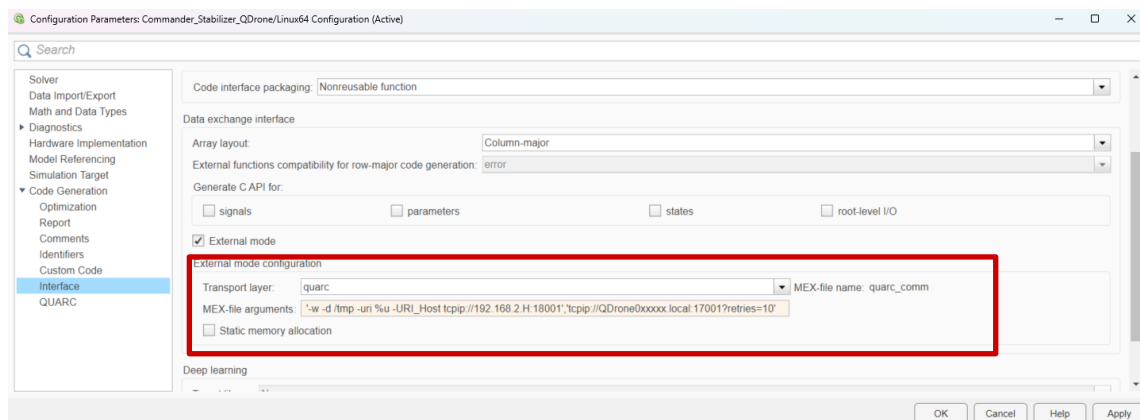

Figure 3. Model Configuration Parameters in the Commander_Stabilizer Model
5. Expand **Code Generation** on the left side of the window, click on **interface** and set the **MEX-file arguments** (Figure 3) as follows